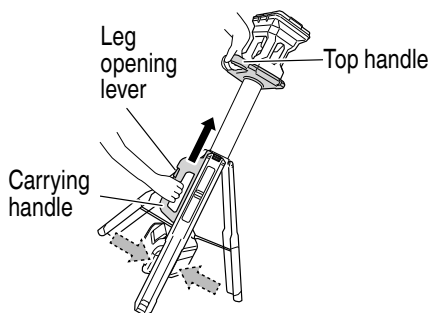

Fig. 15
- (1) Place the LED unit back inside its storage cover in the reverse order to that in “Tripod light preparation”.
- (2) Hold the top handle and carrying handle with both hands, and support the tripod while lifting it at an angle. Close its legs by pressing the leg opening lever and pulling the carrying handle up towards the top handle. (Fig. 15)